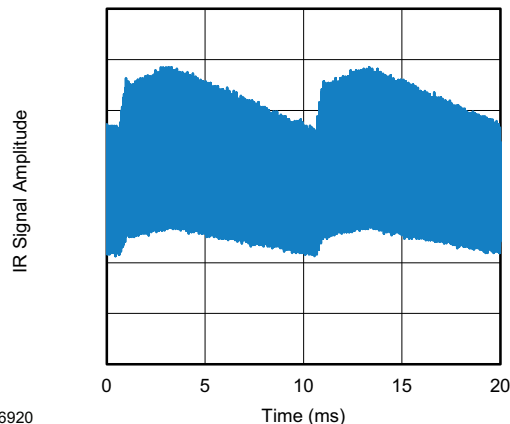
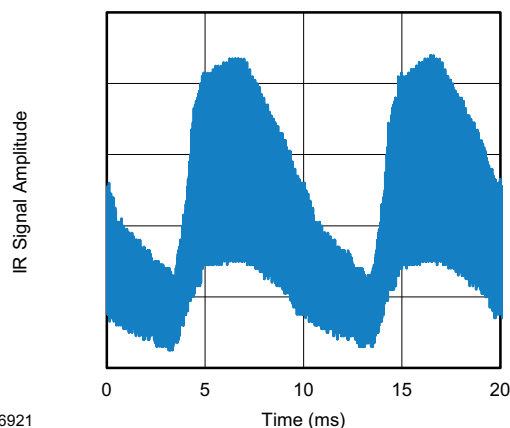

Fig. 14 - IR Disturbance from Fluorescent Lamp With Low Modulation
Fig. 15 - IR Disturbance from Fluorescent Lamp With High Modulation
- Modulated IR signals from common fluorescent lamps (example of noise pattern is shown in Fig. 14 or Fig. 15)